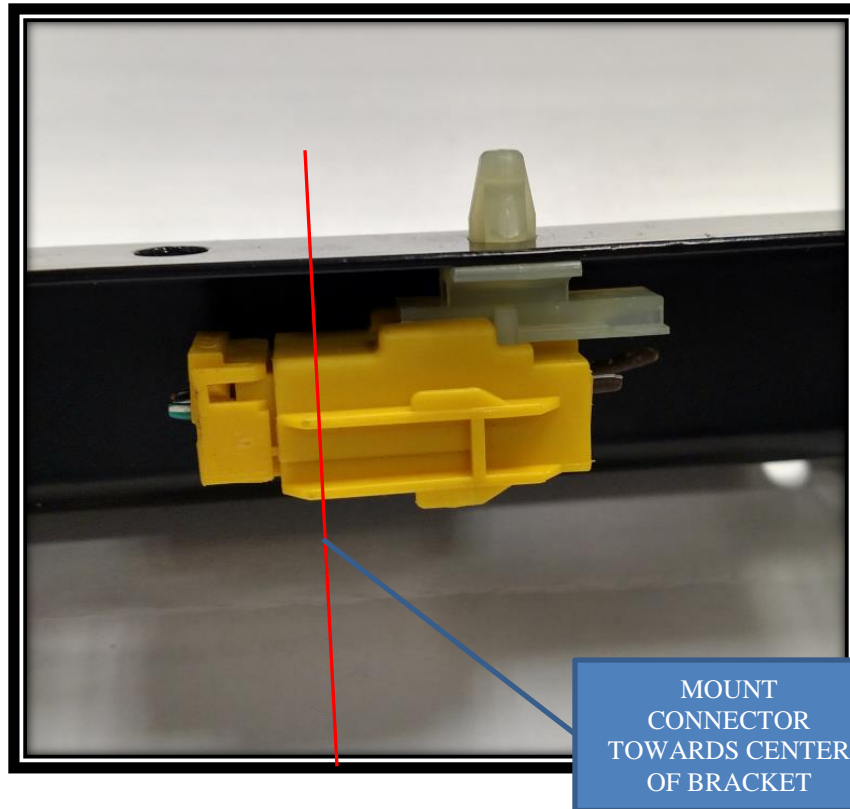

FIG. 5.1
6. Insert clip securely into bracket so connector is centered. Refer to FIG. 5.1.